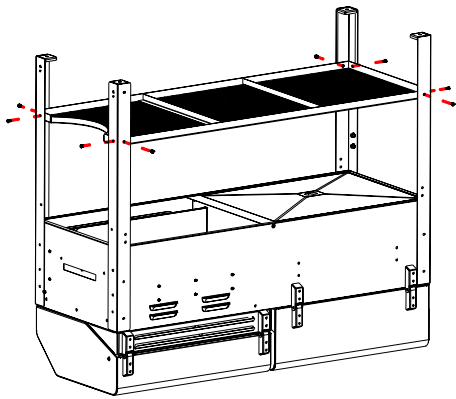

Fig. 3
*Locate:* Bottom Shelf and (8) M6x15 bolts.
Refer to Fig. 3 and attach the Bottom Shelf to the Legs as shown using (2) M6x15 bolt in each leg.